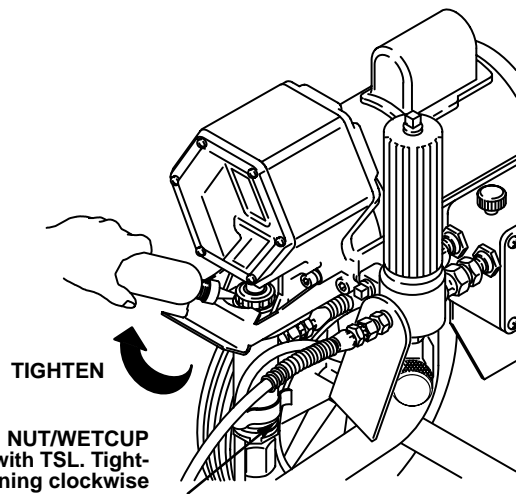

Fig 12-1
1. **Check the packing nut/wetcup daily.** First relieve the pressure; see page 9. Be sure the wetcup is 1/3 full of TSL at all times to help prevent fluid buildup on the piston rod and premature wear of packings. The packing nut should be tight enough to stop leakage, but no tighter. Overtightening may cause binding and excessive packing wear. See Fig 12-1.